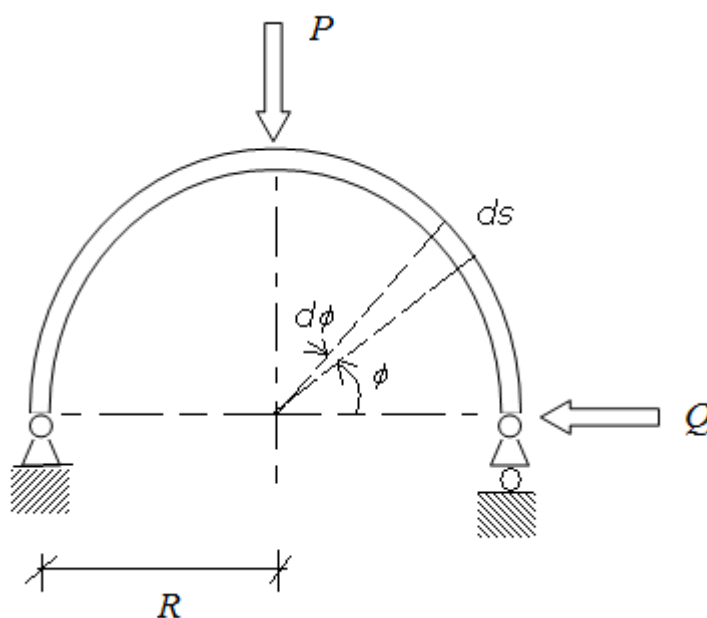

Fig Q4
4. A slender half ring structure with a radius of R is supported at one end with a hinge mechanism and at the other end with a hinge-roll mechanism, as shown in Fig Q4. The structure is subjected to a vertical load P in the middle of the ring and a horizontal force Q acting at the hinge-roll support. The latter ensures that there is no displacement in the horizontal direction.